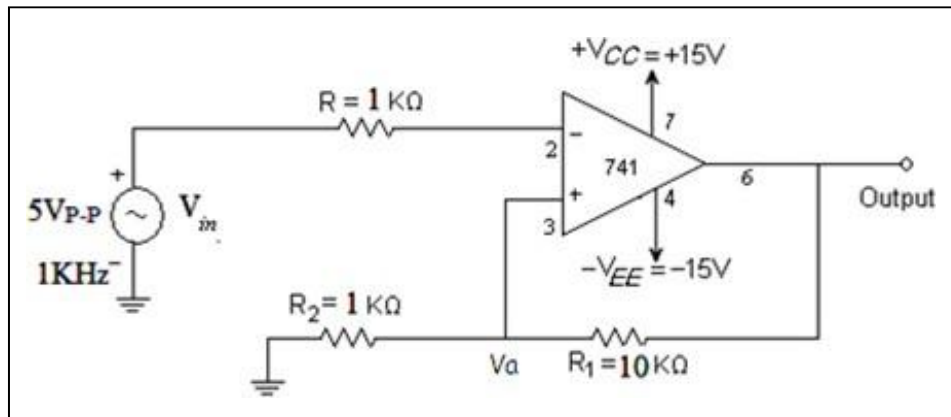

Fig 1. Schmitt Trigger Circuit
1. Connect the circuit as shown in Fig 1.